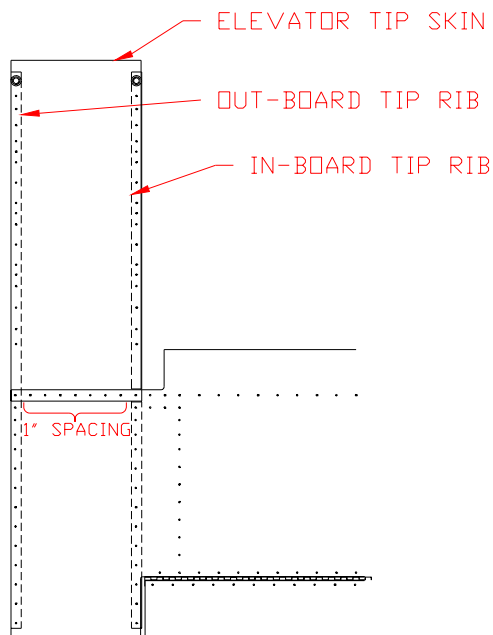

Figure 3.6.4
- 12) Where the Tip skin overlaps the Spar and Elevator Skin, drill #30 holes at 1" spacing nominal. Figure 3.6.4.